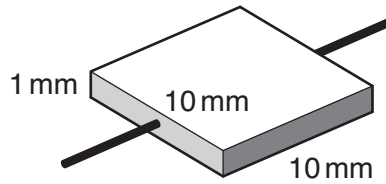

Fig. 9.1
- 9 This question is about measuring the electrical conductivity of a semiconductor. The semiconductor is in the form of a square chip of side about 10 mm, and about 1 mm thick as shown in Fig. 9.1.